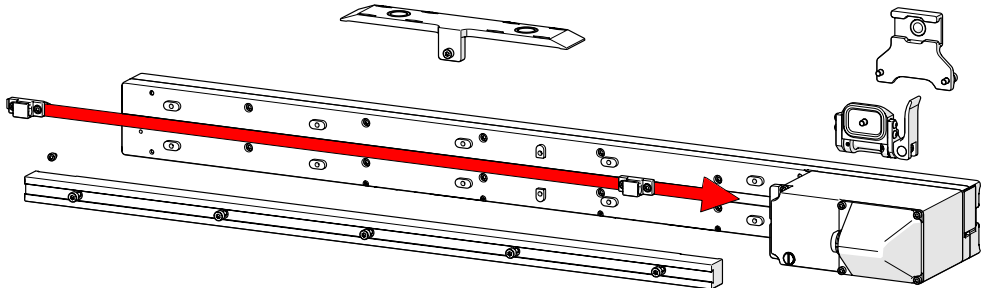

Fig. 151 - Replace cable management clip
10. Slide the cable management clips onto the raster arm (Fig. 151).